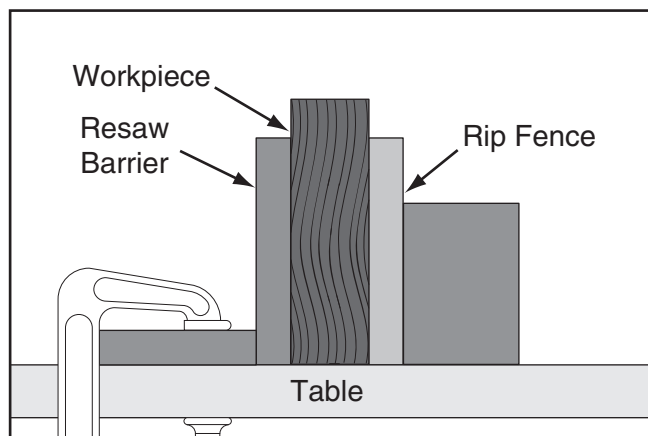

Figure 103. Resaw setup.
3. Place the workpiece against the rip fence and slide the resaw barrier against the workpiece. Now clamp the resaw barrier to the top of the table saw (see **Figure 103**).
8. Repeat **Steps 4–6** until the blade is close to half of the height of the board to be resawn. The ideal completed resaw cut will leave a $\frac{1}{8}$ " connection when the resawing is complete as shown in **Figure 103**. Leaving a $\frac{1}{8}$ " connection will reduce the risk of kickback.